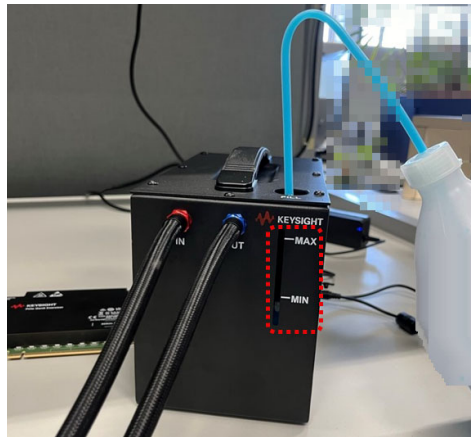

Figure 13 Adjusting coolant level between MIN and MAX markings
- 3 Now, power on the heat exchanger. Upon the first power-up, the pump will start running and empty the heat exchanger tank. Keep filling the heat exchanger tank until the coolant level gets stable between "MIN" and "MAX" markings as shown in Figure 13. Then seal the tank by screwing in the lid. The Exerciser/Analyzer module is now ready for use.